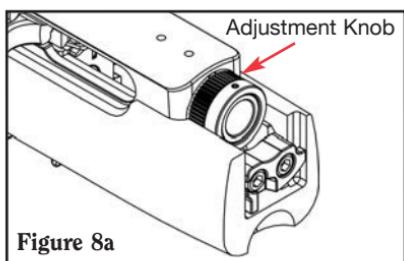

Figure 8a
2. Loosen the adjustment knob by turning it **clockwise** as far as possible with finger pressure. (See Figures 8a & 8b.)